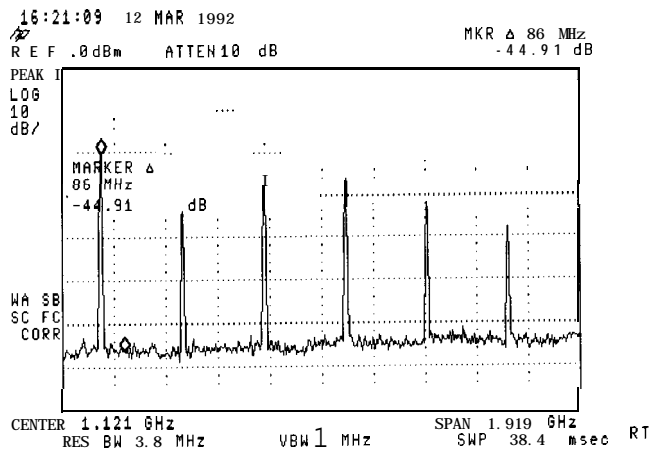

Figure 3-14. Using the Marker to Peak/Peak Function
- The **MARKER →PK-PK** softkey can be used to find and display the frequency and amplitude difference between the highest- and lowest-amplitude signals. To use this automatic function, press **(MKR→)**, More 1 of 2, **MARKER →PK-PK**. See Figure 3-14.